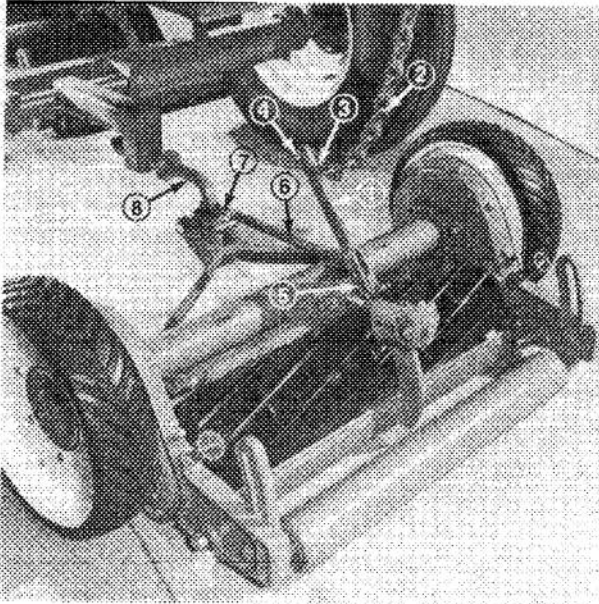

Figure 17
2. Secure lift bracket to #1 lift chain (rear center) with a long shackle, clevis pin and cotter pin (Fig. 17).
3. Secure lift bracket to mower mounting bracket with a 3/8-16 x 1-1/2" lg. capscrew and 3/8-16 locknut (Fig. 17). Use bottom mounting hole in lift bracket.
4. Hook spring to upper mounting hole in lift bracket and other end of spring to lift bail with S-hook (Fig. 17).